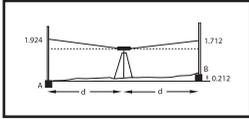

Fig.10
- Set up the level on a tripod halfway between two measuring staffs (Fig. 10). Set approximately 39m to 50m apart. Centre the bubble